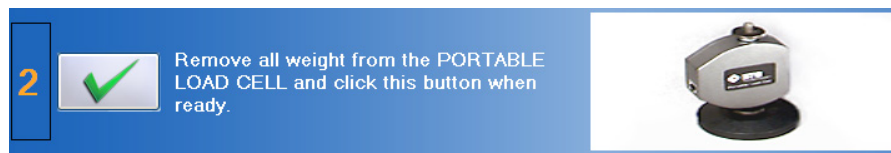

Figure 7-5. Portable Load Cell - Set the Zero Point
- Step 3. Click on  to set the zero point (Figure 7-5).